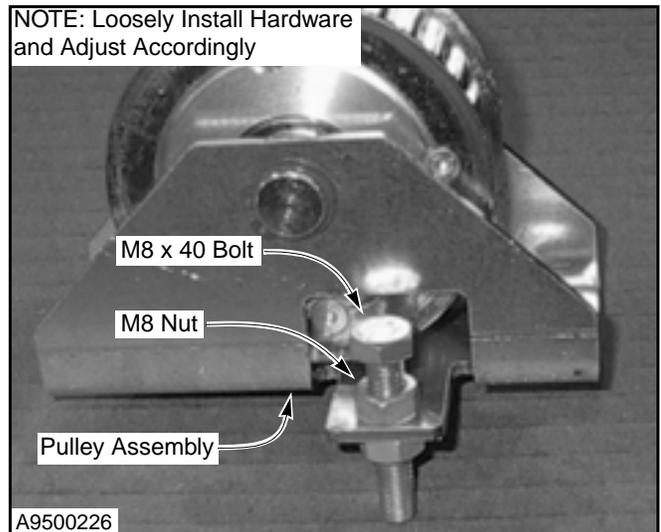

Figure 39
6. To make the belt run true, level the pulley assembly by installing one bolt and two nuts, which can be found in the small parts carton, on each tab of the guide pulley bracket. (See Figure 39.)